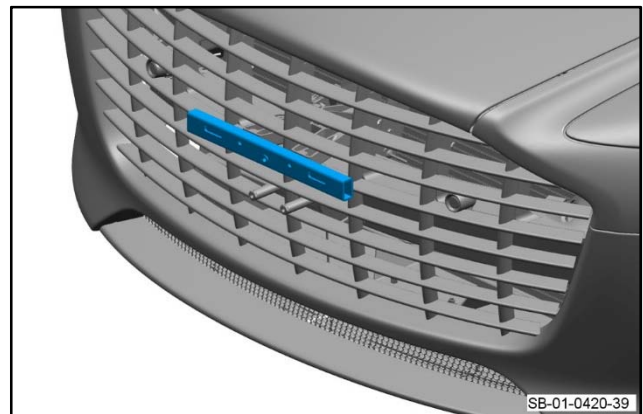

Figure 39
3. Put the bolster bar for the front license plate plinth into position (refer to Figure 39).